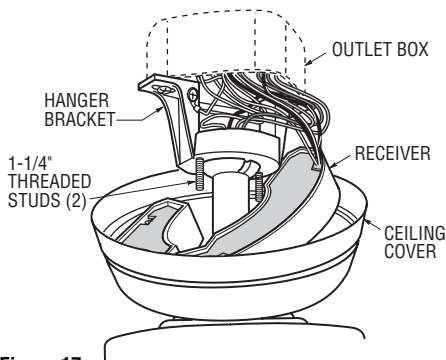

Figure 17
- 10. Insert the connected ends of the wires up through the open side of the hanger bracket and into the outlet box as shown in Figure 17.